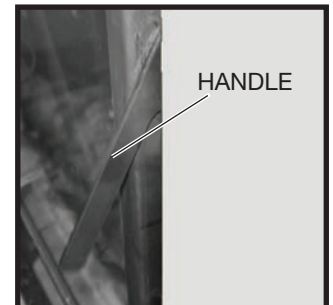

Figure 5: Safety barrier screen. Figure 6: Accessing handle. Figure 7: Handle.
1. Remove safety barrier screen (Figure 5) by prying the top portion of the screen toward you, then lift the screen from its tabs (inset) located at the base of the window frame.